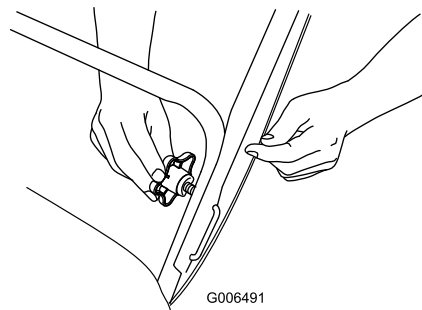

Figure 5
- “U”-shaped handle lock (2)
- Insert the end of the “U”-shaped handle lock into the open hole in the handle and tighten the handle knobs until they are snug (Figure 5).